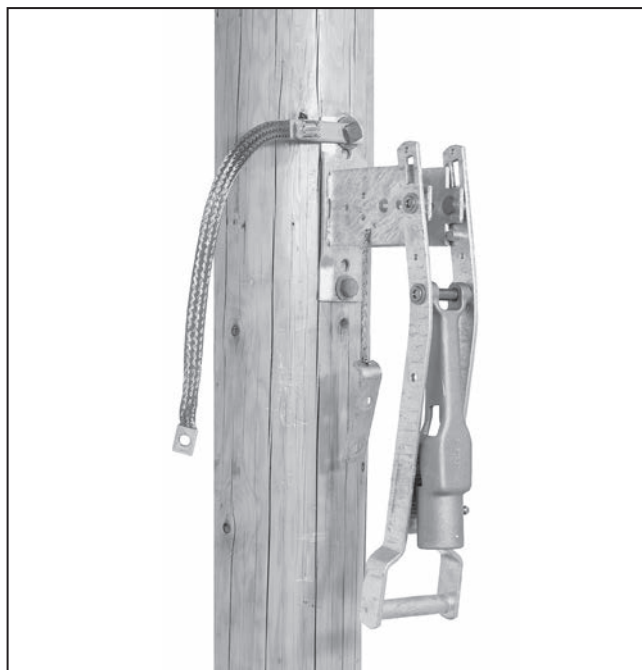

Figure 14. Mounting the operating handle.
STEP 13. Mount the operating handle assembly as shown on the erection drawing. At the same time, use one of the mounting bolts to attach one end of the ground strap (the end with the grounding connector attached) to the handle mounting plate.■ See Figure 14.